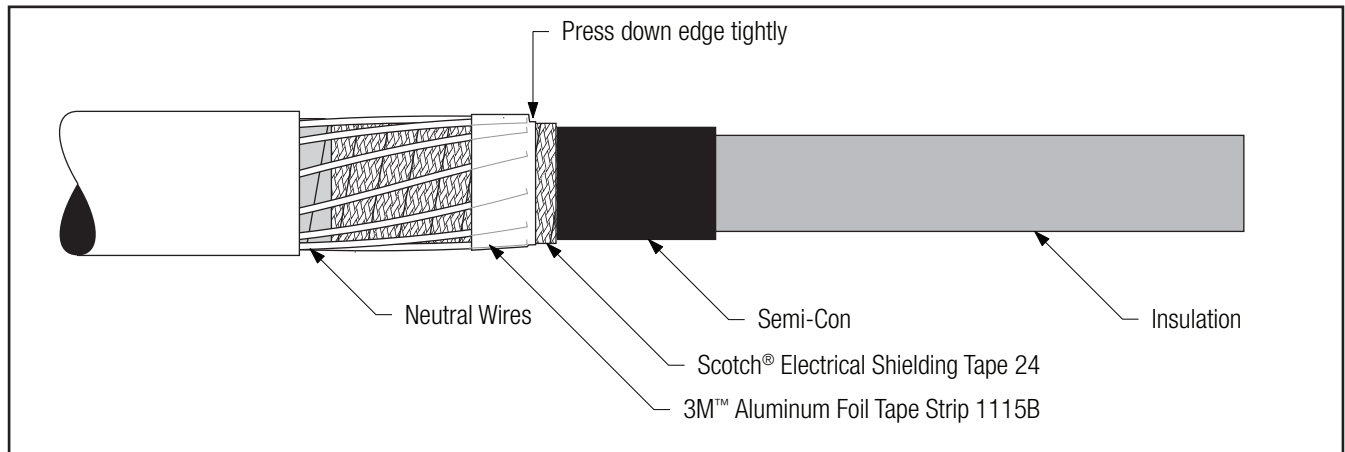

Figure 4
- 2.6 If using JCN or Flat Strap Cable:** Carefully lay neutral wires back down on top of the shielding tape and press into mastic. Keep wire profile low by following the concentric turn in the cable (*Figure 4*).
- 2.7 If using JCN or Flat Strap Cable:** Remove the liner from one 3M™ Aluminum Foil Tape Strip 1115B and secure the ends of the neutral wires. Wrap the aluminum tape on top of itself and tightly press down on the edge of the tape toward the end of the electrical shielding tape (*Figure 4*). If preferred, 2 wraps of vinyl tape may be used to temporarily secure the ends of the neutral wires instead of the aluminum tape.